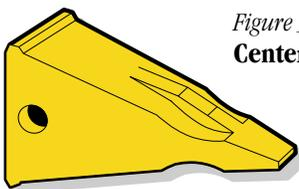

Figure 5 - Short Centerline Tip
- The short tip (see Figures 5 and 6) should be used in extreme impact conditions only, as *it does sacrifice some wear material compared to intermediate and long tips.*